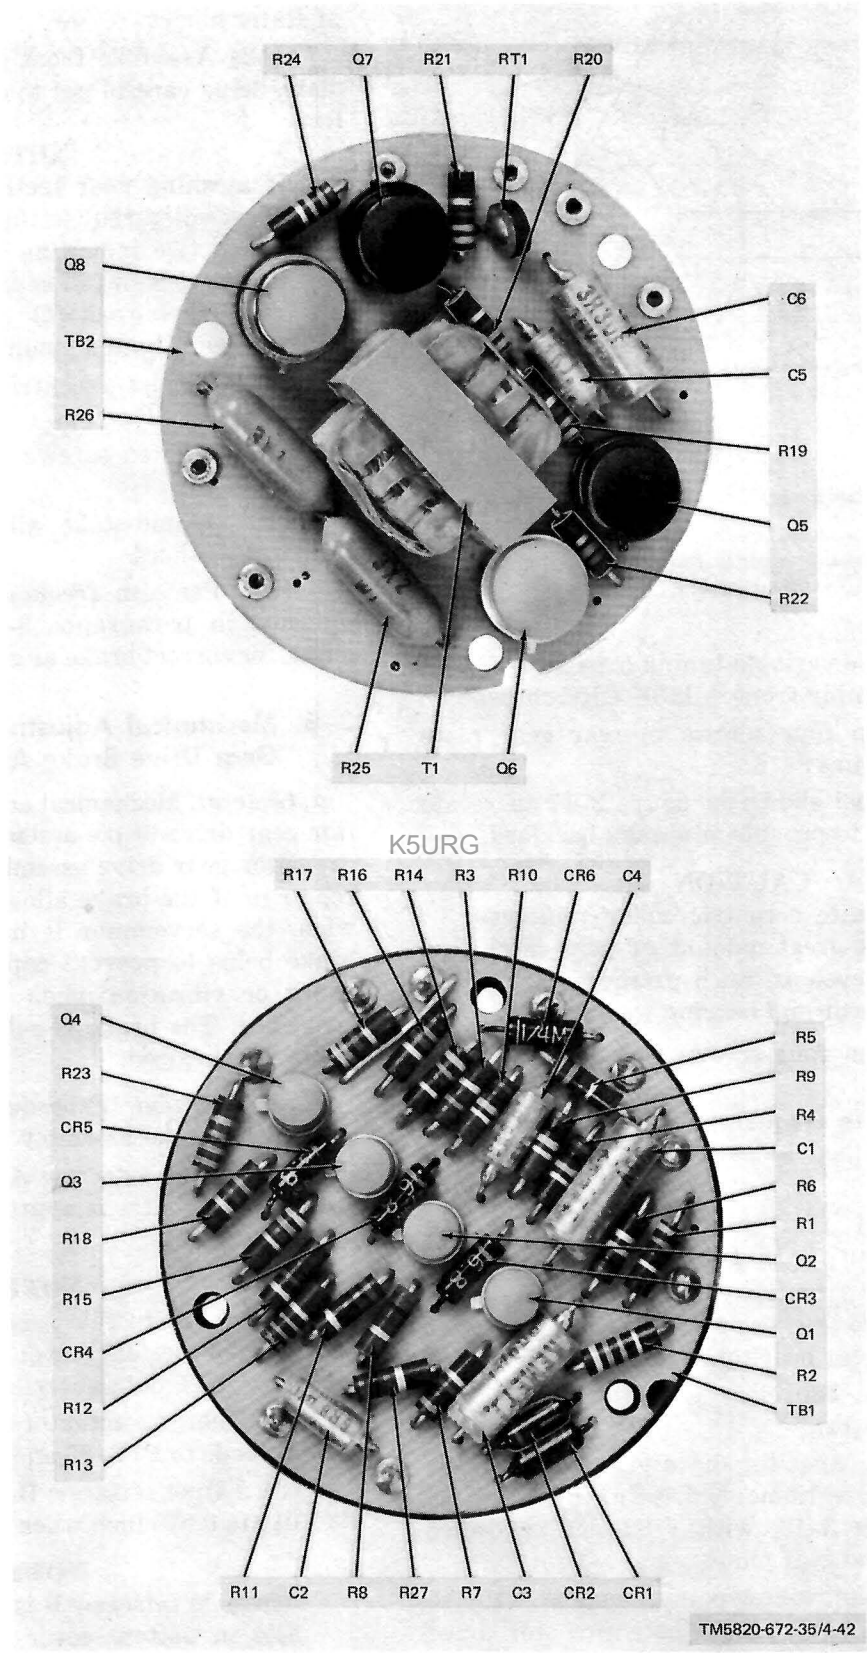

Figure 3-15. Servoamplifier (270-2039-010) terminal board.
d. Unscrew three screws securing two component mounting boards (fig. 3-15). These screws are threaded through module base and locked in place with round nuts.